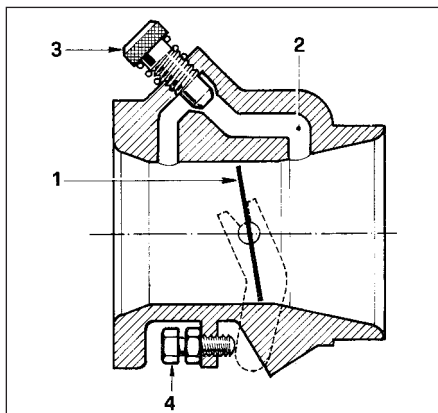

Fig. 13.40 Sectional view of throttle valve housing - 1301 cc Turbo ie engine (Sec 9C)
14 The idle bypass channel (2) (Fig. 13.40) is fitted with an adjustment screw (3) to vary the idle speed.